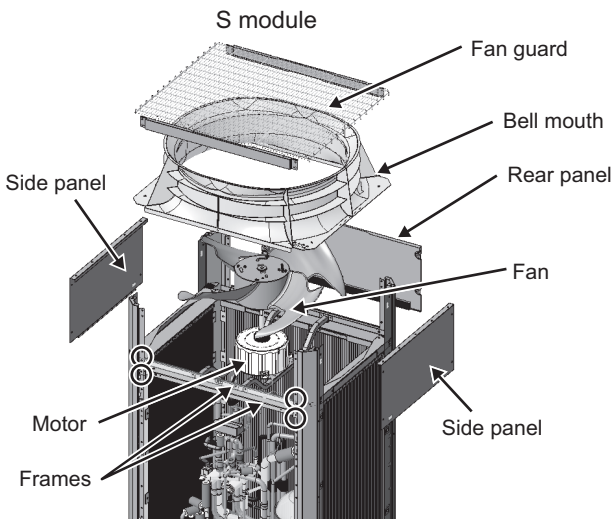
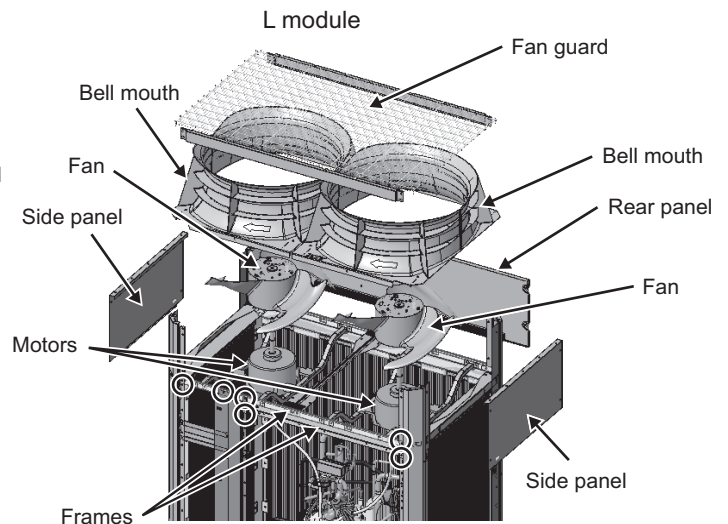

Fig. 2
Fig. 3
Refer to Section [8-13-7 Maintenance Procedures for the Heat Exchanger] for details. (Fig. 2)
(3) Remove the frames. (Four screws on S module: Fig. 2, six screws on L module: Fig. 3)